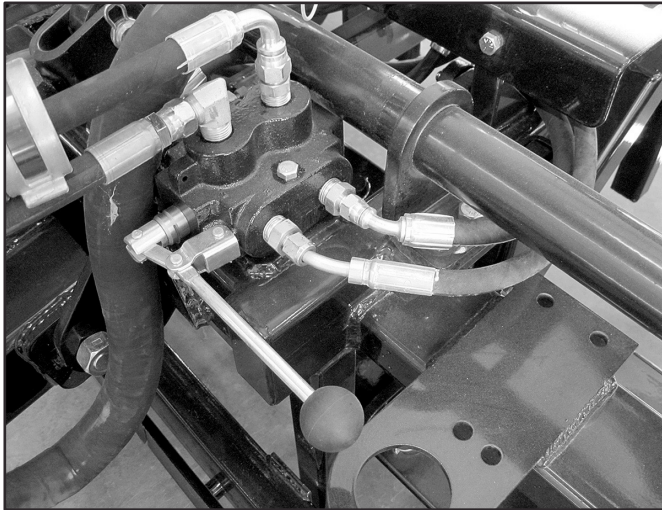

Figure 3-1
1. Clean the hose couplings before connecting them to the tractor's hydraulic ports or the 2-way sequence valve. (See Fig. 3-1) Dirt and debris will shorten the life of the seals or create leaks.